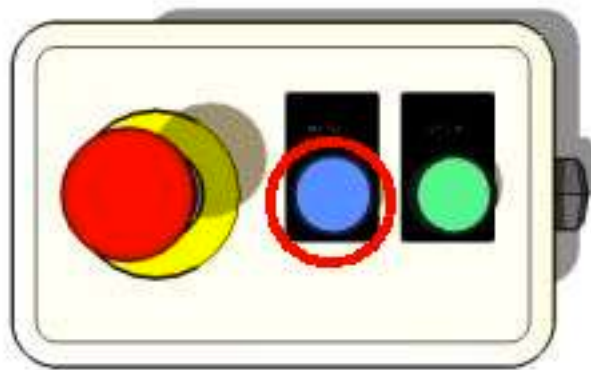

Figure 9: Blue Reset Button
9. Click on the **BLUE RESET** button on the **DONGLE** (Figure 9) (Figure 3).